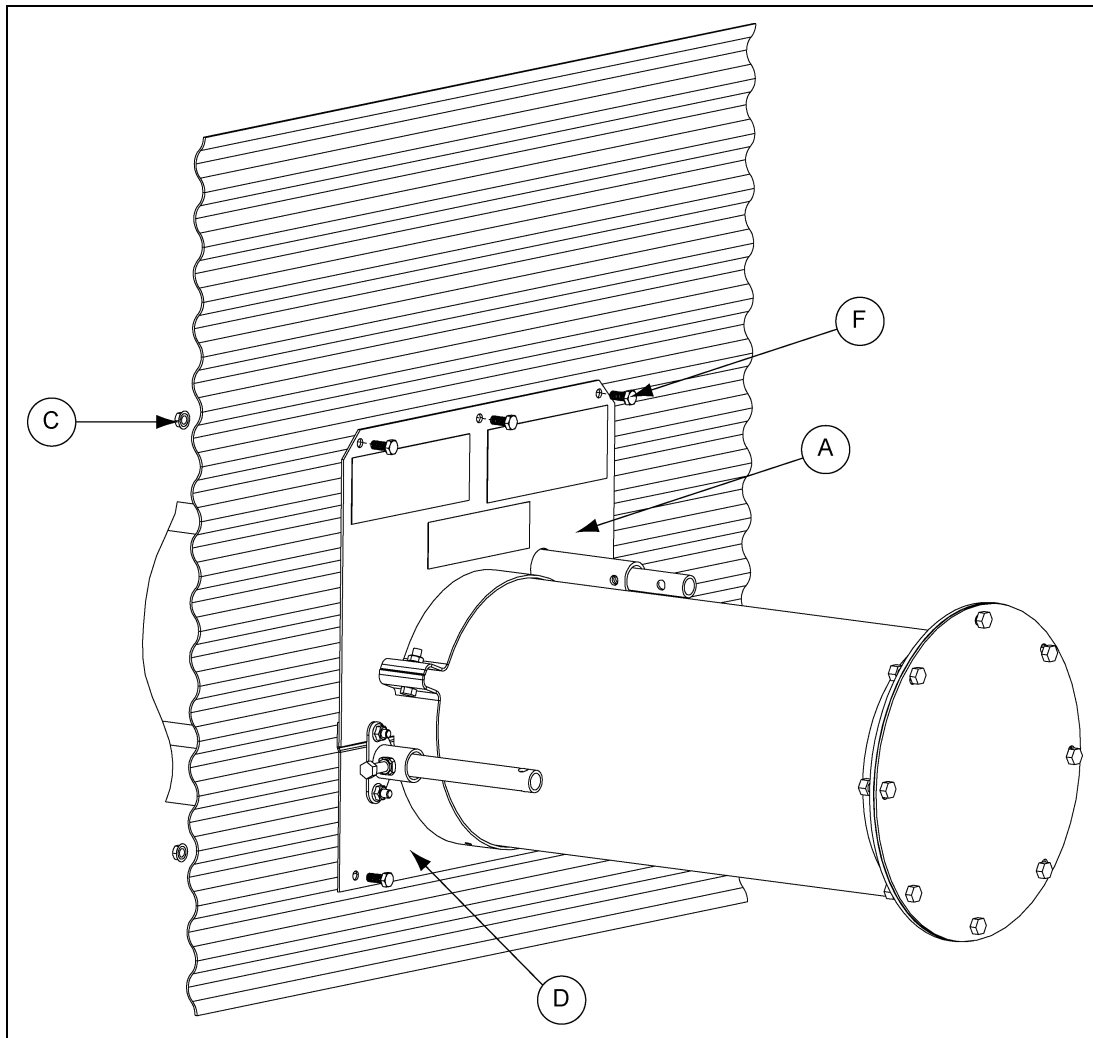

Figure 4K
4. Slide the bin flanges flush up to the bin wall and tighten the bolts connecting the two (2) flanges.
5. Drill into the bin wall through the holes located on the four (4) corners of bin flanges. Fasten the bin flanges to the bin wall using four (4) 5/16" x 3/4" bin wall bolts and serrated flange nuts. (See Figure 4K.)